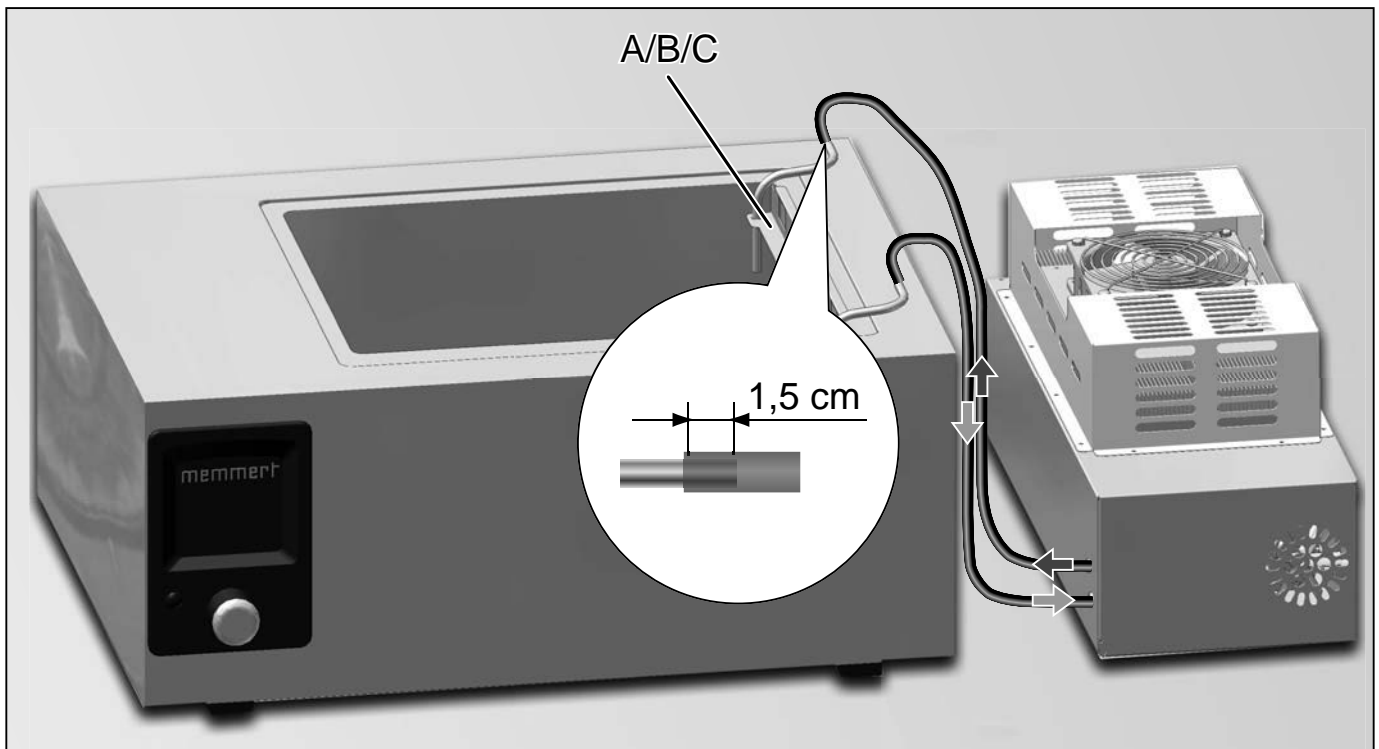

Fig. 20 Cooling unit standing next to the waterbath
2. Place cooling unit to the right of the waterbath, as shown in Fig. 20. Make sure that the cooling unit is standing on its rubber feet when this is done (Peltier fan is facing upwards, the mains switch is facing to the rear).
3. Cut the tubes of the cooling unit to the lengths actually required for connection to the tube suspender. Do not confuse the supply and return tubes when doing this (markings on the tubes and Fig. 20): The upper tube of the cooling unit must be plugged onto the rear connection of the tube suspender A/B/C.
4. Plug tubes onto the connections of the tube suspender (sticks out 1.5 cm, Fig. 20).